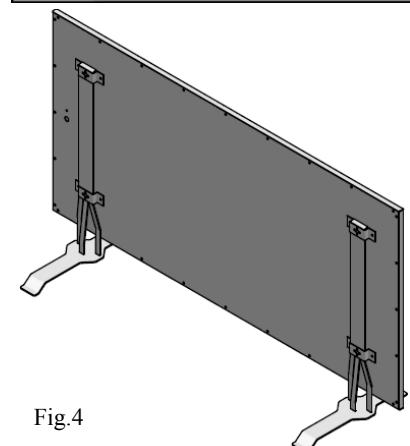

Fig.4
- Mark the holes according to the table, drill out the holes, insert the dowels and drive the screw in to protrude approx. 5 mm. (Fig. 4)
Installation in an open area - free-standing (fig. 4)